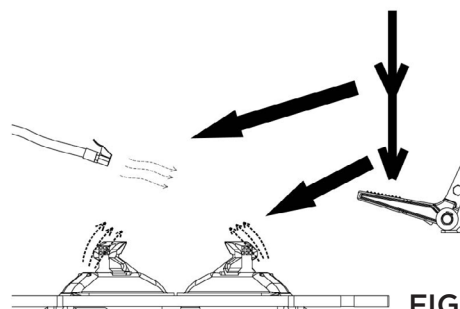

FIG 37
- The quick inflation pedal (FIG3-27) on the right side of machine cabinet has two gears: first gear regular inflation; second gear quick inflation like FIG37. Step down the inflation pedal (FIG3-23) to the bottom position (second gear) and observe if the tire lip contacts the rim. If not, repeat the above operation. Then quickly release the pedal when the tire is full to the position of the first gear. While inflate, observe the pressure gauge to confirm the pressure indicated on the pressure gauge not exceeds the pressure specified by the manufacturer